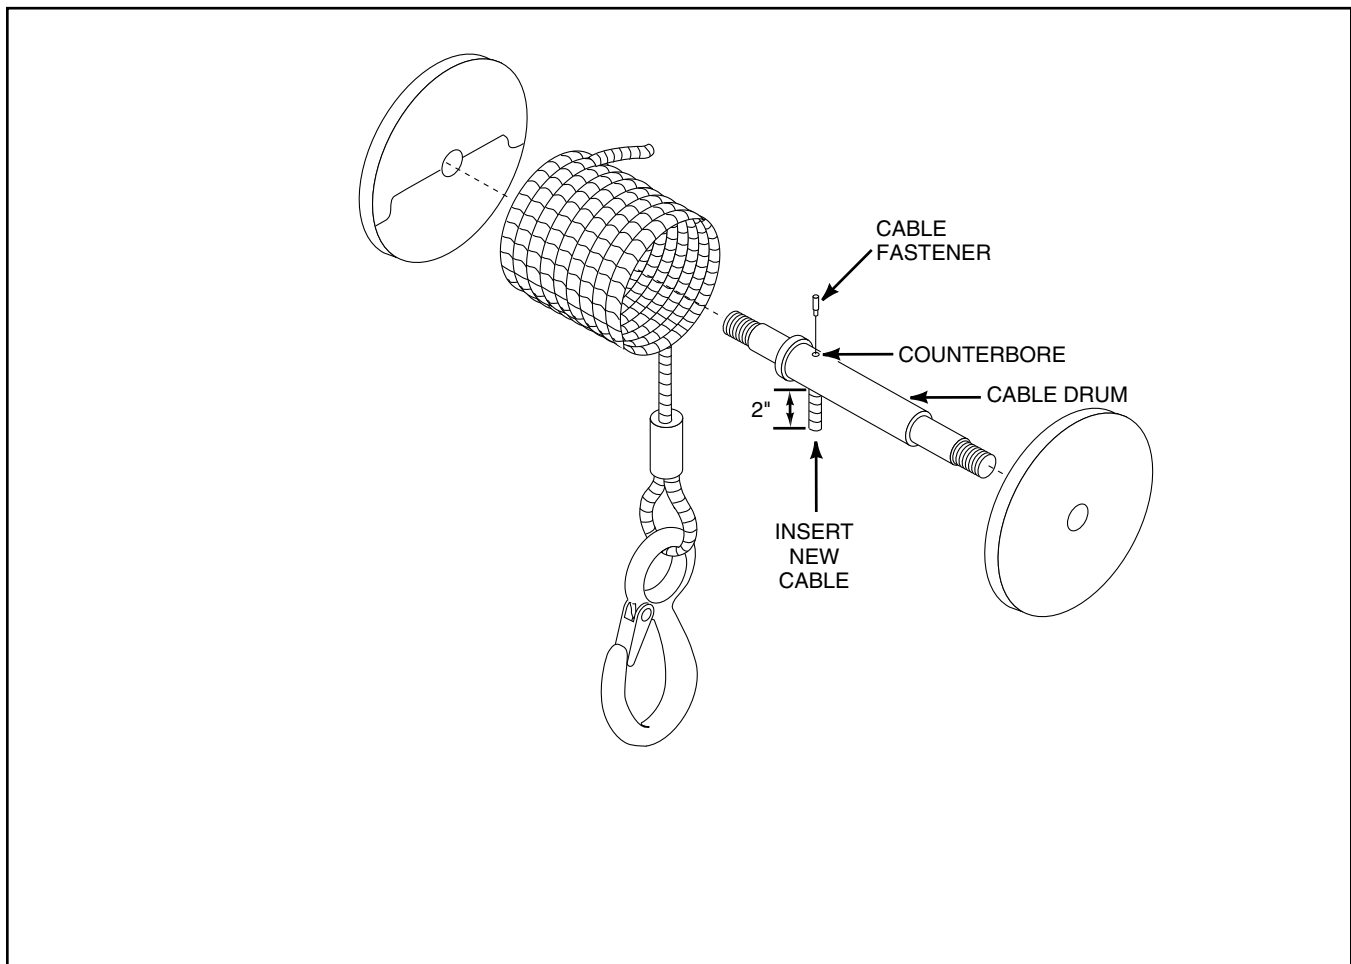

Figure 3 Cable Replacement
3. Cut the old cable approximately 2" from the drum and push the remaining cable and fastener through the drum to remove (See Figure 3).
2. Bad plug.	1. Check the male connection at the end of the wiring kit by using probe light across the two prongs inside the plug. If the light illuminates, the wiring is correct. 2. Remove the two cover connecting screws and rods (See Figure 3) from the cover containing the female socket. Plug the male socket into the female socket. Use a probe light across the two connections on the underside of the female socket. Replace the appropriate socket if the light does not illuminate. If the light illuminates, check the switch and/or motor.